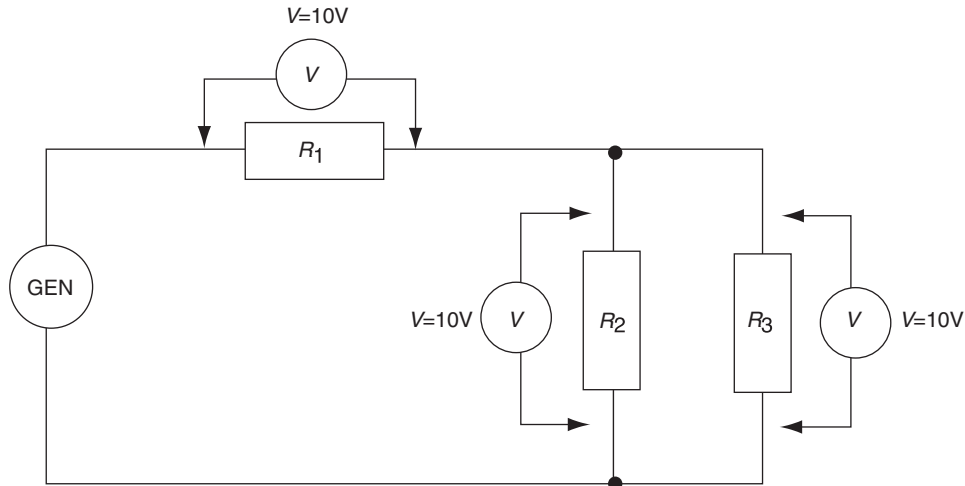

FIGURE 4-14 Three-resistor series-parallel circuit.
1. The same voltage is impressed across each component in a parallel circuit. Many components in circuits may have equal amounts of voltage impressed across them, although they may not be in parallel. If components are in parallel, the voltage must be the *same* voltage. In the circuit in Figure 4-14, the supply voltage is 20 volts. The measured voltages are 10 volts across R_1 , 10 volts across R_2 , and 10 volts across R_3 . The same 10 volts appear across R_2 and R_3 . They are in parallel. R_1 is not in parallel, even though it has 10 volts across it.